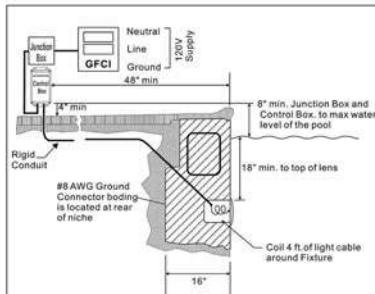

Figure 1
2. The junction box (or, for 12 volt models, the low voltage transformer) must be located at least eight (8) inches above water level, at least four (4) inches above ground level, and at least four (4) feet from the edge of the pool. See Figure 1.
3. The light fixture and all metal items within five(5) feet of the pool must be properly electrically bonded to a reliable point of grounding.
4. The wet niche must be properly installed so that the top edge of the underwater light's lens is at least 18 inches below the surface of the water in the pool. See Figure 1.
5. The wet niche must be properly electrically bonded and grounded via the No. 8 AWG ground connector located at the rear of the niche. See Figure 1.
1. Feed cord through conduit to junction box, leaving at least four (4) feet of cord at the light fixture to coil into the base of the light niche, see Figure 1. The four (4) feet of cord allows the light to be serviced after the pool is filled with water.
2. Cut the cord at the junction box, leaving at least six (6) inches of cord to make connections.
2. The junction box (or, for 12 volt models, the low voltage transformer) must be located at least eight(8) inches above water level, at least four (4) inches above ground level, and at least four (4) feet from the edge of the pool. See Figure 1.
4. The wet niche must be properly installed so that the top edge of the underwater light's lens is at least 18 inches below the surface of the water in the pool. See Figure 1. The wet niche must be properly electrically bonded and grounded via the No. 8 AWG ground connector located at the rear of the niche. See Figure 1.
4. Feed cord through conduit to junction box, leaving at least four (4) feet of cord at the light fixture to coil into the base of the light niche, see Figure 1. The four (4) feet of cord allows the light to be serviced after the pool is filled with water.
5. Cut the cord at the junction box, leaving at least six (6) inches of cord to make connections.